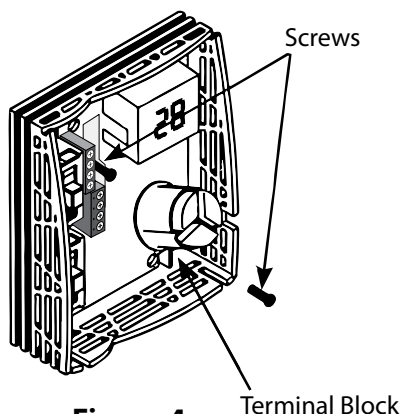

Figure 4
4. Drill holes in the wall through the 2 mounting holes in the back of the humidistat cabinet as shown in Figure 4 and insert anchors into the holes.